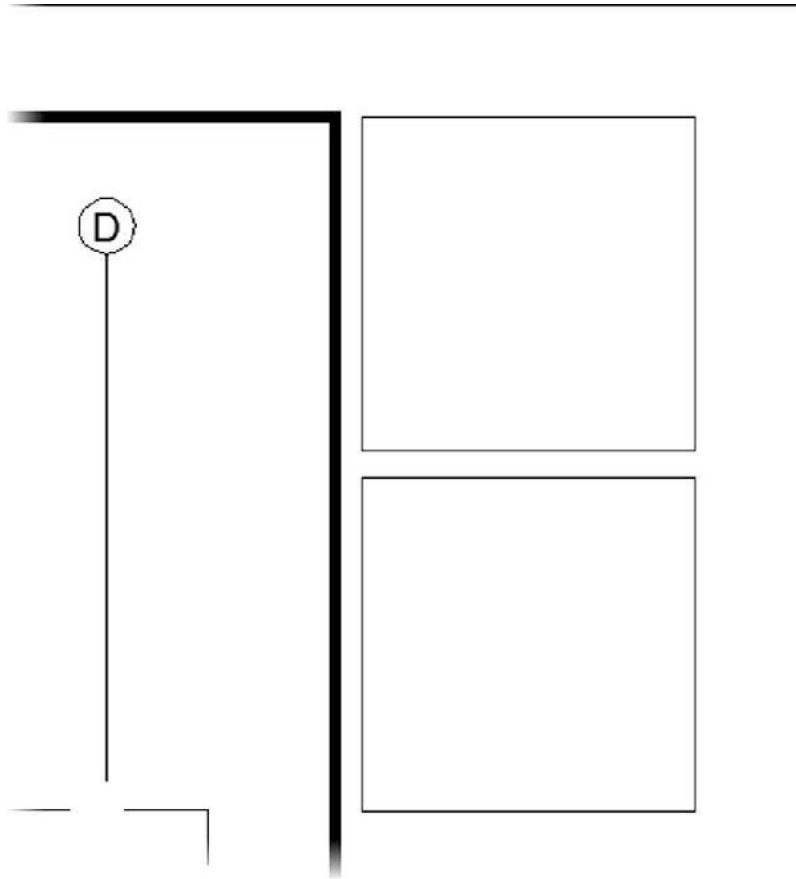

FIGURE 8.45: Accurately positioned 72" \times 72" (1900 mm \times 1900 mm) title-block components
9. Enter **72,-72 (1900,-1900)** at the Specify other corner point prompt to complete the rectangle. The top rectangle shown in Figure 8.45 is drawn.
10. Using the same process, acquire a point 6" (150 mm) below the rectangle; create another 72" \times 72" (1900 mm \times 1900 mm) rectangle, shown as the bottom rectangle in Figure 8.45.